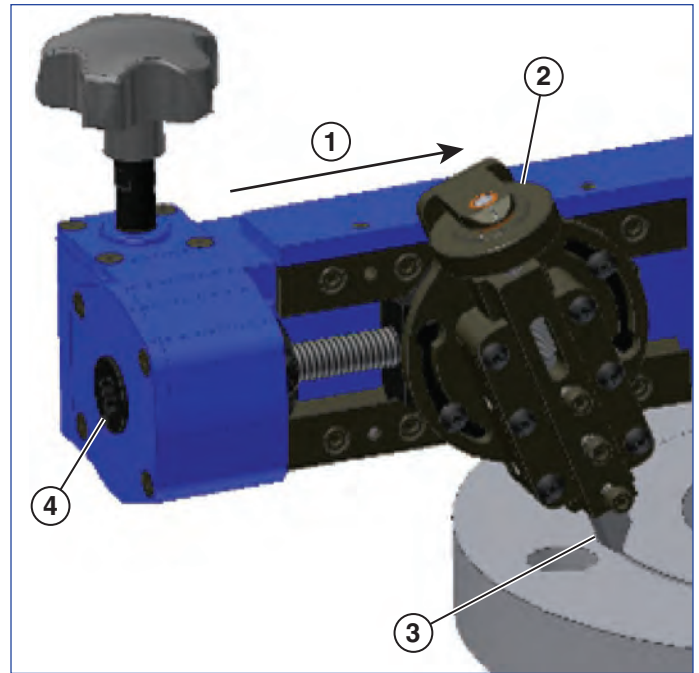

Figure 12
3. Insert a ratchet wrench into the end of the feed screw. Use the depth adjustment knob and the ratchet wrench to position the tool bit slightly above the work piece (see **Figure 12**).